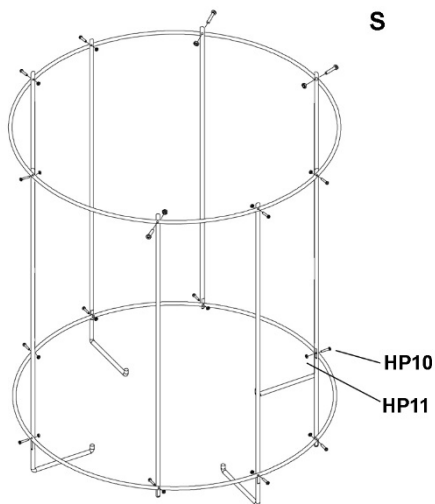

Figure 13
19. Screw the short and long frame supports into the hoops in alternating manner, as shown in Figure 13. Secure with sixteen pan head screws and hex nuts (HP10,HP11). (Note: The bends on long supports point inward as shown.)